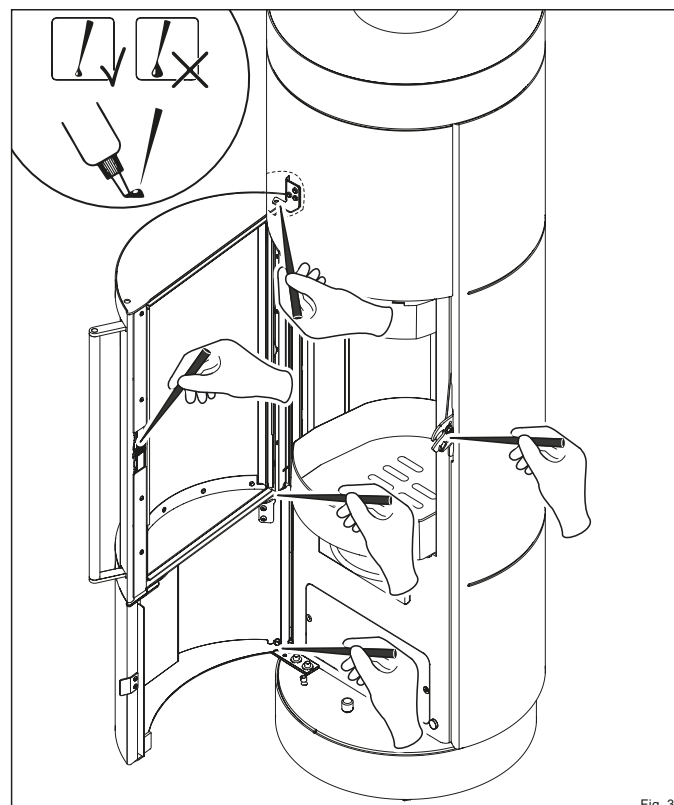

Fig. 31
- Lubricate the points with the speciality grease from the starter kit (Fig. 31).